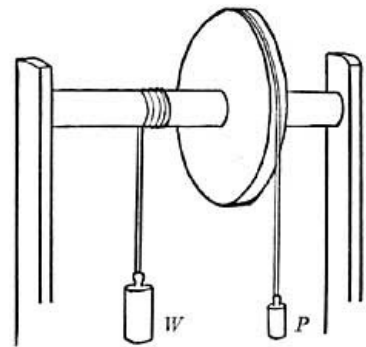

FIG. 112.—The wheel and axle.
**165. Application.** *Windlass, Cogwheels.* In the old-fashioned windlass used in farming districts, the large wheel is replaced by a handle which, when turned, describes a circle. Such an arrangement is equivalent to wheel and axle (Fig. 112); the capstan used on shipboard for raising the anchor has the same principle. The kitchen coffee grinder and the meat chopper are other familiar illustrations.